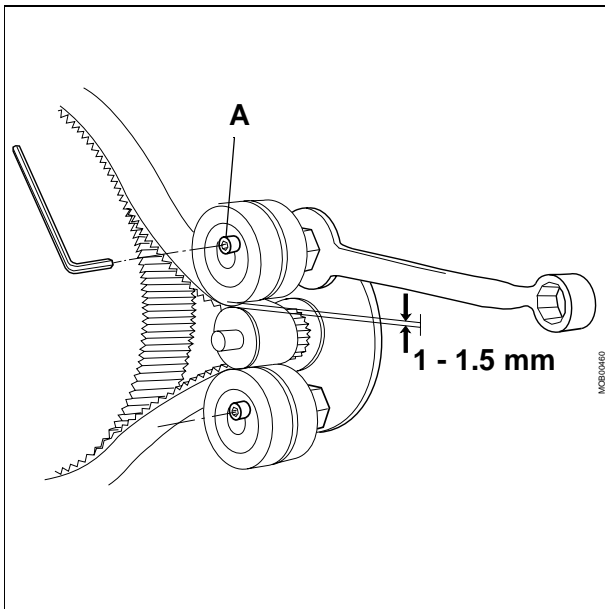
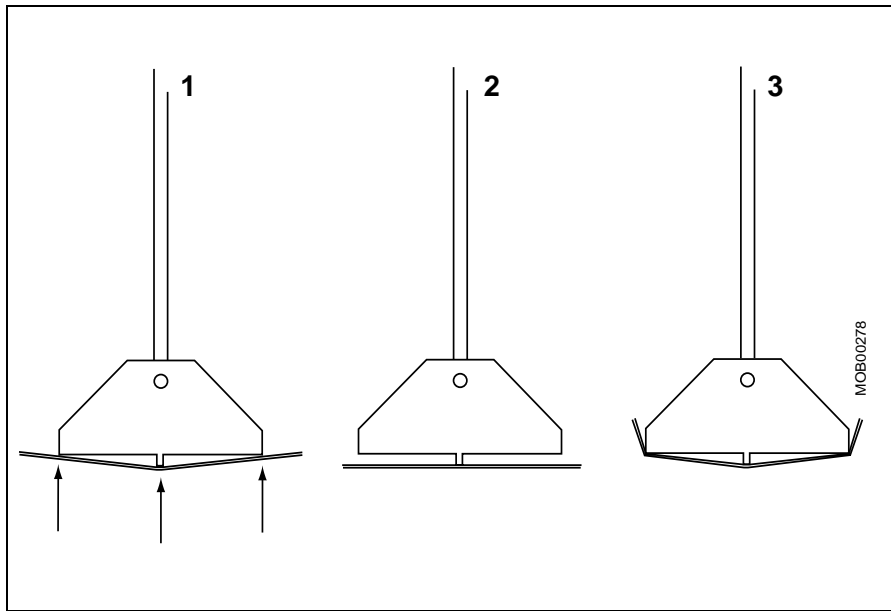

Fig. 4
Fig. 6
- Loosen the screws (**A**/Fig. 4). The tension of the transmission belt can then be adjusted with a 13 mm wrench.
- With the wrench, adjust the tension of the transmission belt equally on the two tension bearings to a minimum distance of 1-1.5 mm between the bearing and the washer (Fig. 4). The tension of the transmission belt is right when the adjustment device and the belt are in contact in exactly three points (**1**/Fig. 6). In (**2**/Fig. 6) the belt is too tight and in (**3**/Fig. 6) the belt is too slack.
- Tighten the screws (**A**/Fig. 4).